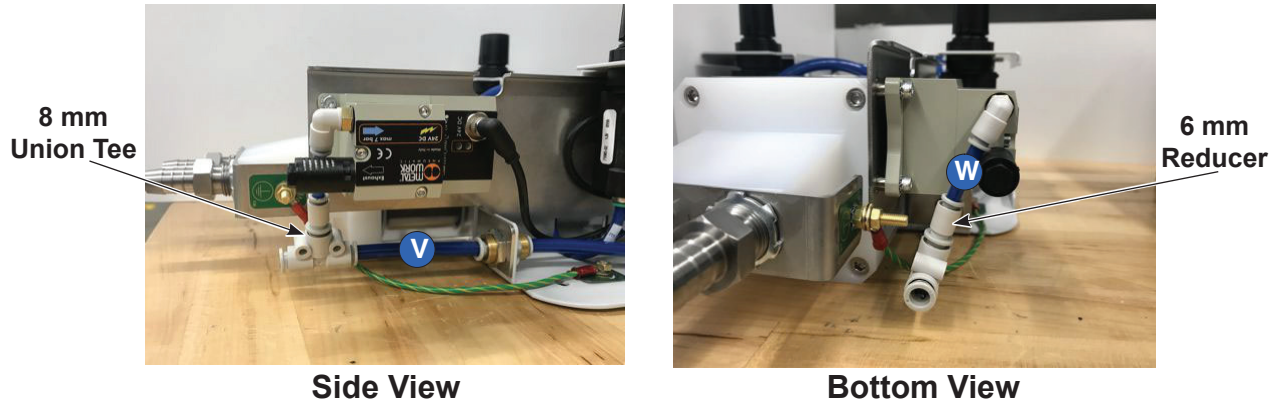

Figure 7 Turbine Generator Connections and Tubing
- a. See Figure 7. Install the 8 mm tubing V into the pump bulkhead fitting.